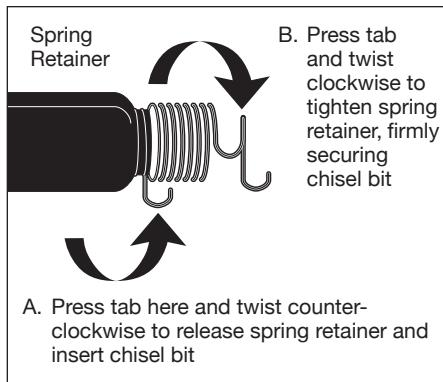

Figure 2 - Spring retainer
The spring retainer holds the hammer in place. The retainer must be securely attached (See Figure 2). The retainer is a normal wear item and should be replaced when worn. Replace with MP2896 (2) piece hammer spring set. The retainer unscrews for easy hammer insertion.